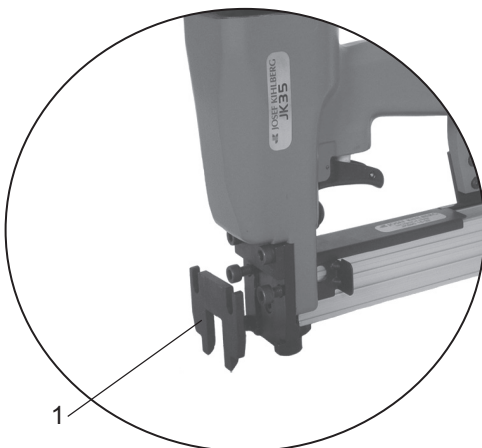

Fig. 7
- Remove the door from the screws (Fig. 7/1).